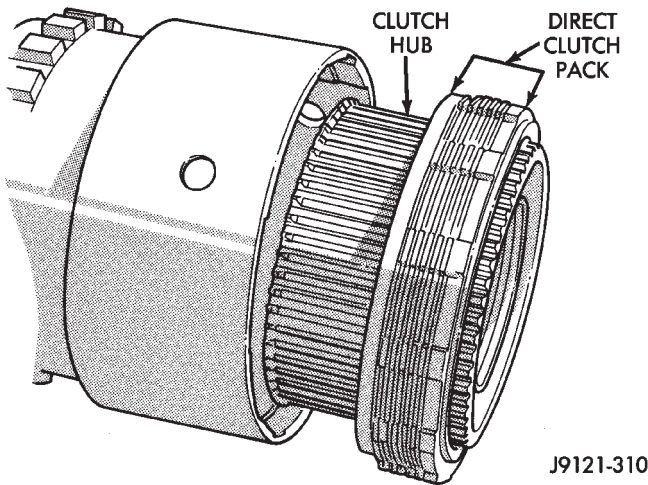

Fig. 24 Direct Clutch Pack Removal
- (13) Release press load on clutch spring **slowly and completely**. Remove press tools and geartrain.
- (14) Remove direct clutch pack from hub (Fig. 24).